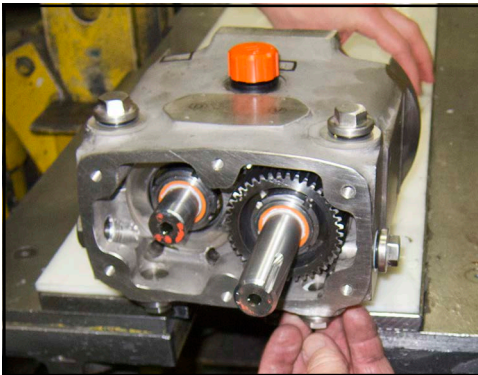

Figure 220 - Install plugs
2. Install the oil drain plug O-rings (part number N70114, item 46 on page 129) on the oil drain plugs, then install the drain plugs on the bottom of the pump as shown in Figure 220. Torque the plugs to 40 in-lb (4.5 N·m).